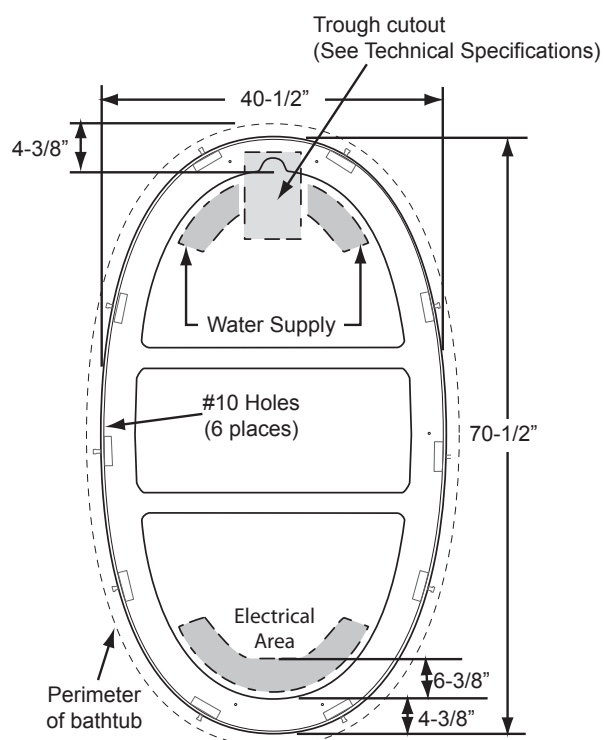

Figure 1. Template for Gallery™ 7242 & Riva™ 7242 Skirt
- 1 Set the skirt in its place and position precisely with respect to the drain-overflow location. Verify where the indentation for the drain is in relation to the drain-overflow (Figures 1 & 2). Note: For Gallery™ and Riva™ models, the electrical area at the opposite end is within 15 inches of where the electrical floor outlet is to be located. Use a marker to outline the perimeter of the entire skirt directly on the floor.
Once the unit is in position, ensure it is level in both directions for proper draining. Leveling must be done with the adjustable legs located beneath the unit. Make sure the legs and the contour of the skirt are at the same level to ensure stability of the unit (Figure 1). A level must be used to verify the bathtub is level. If the bathtub is not level, please perform the following steps: